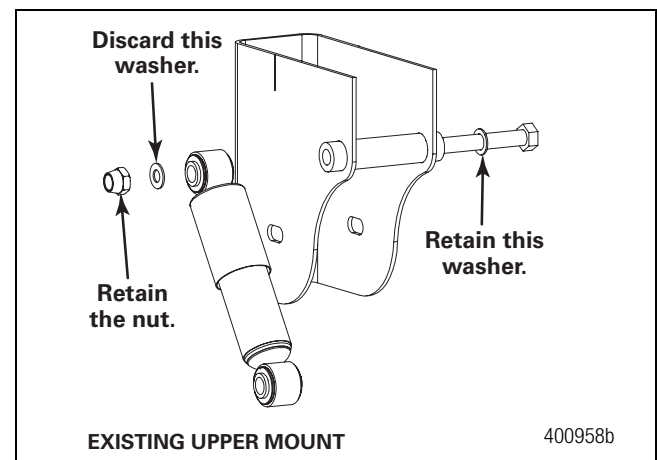

Figure 1
3. Remove the 7/8-inch (22.23 mm) nut and 7/8-inch x 1-3/4-inch O.D. (22.23 x 44.45 mm) washer from the UPPER shock absorber mounting. Discard the washer. Do not remove the existing washer on the shock absorber bolt. Figure 1.
- Remove the 7/8-inch (22.23 mm) nut and 7/8-inch x 1-3/4-inch O.D. (22.23 x 44.45 mm) washer from the UPPER shock absorber mounting. Discard the washer. Figure 1.